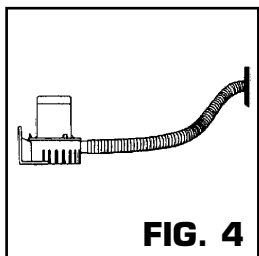

FIG. 4
4. Fasten the hose to the pump outlet and to the thru-hull connector, cutting off any excess hose that might sag - see Fig. 4.